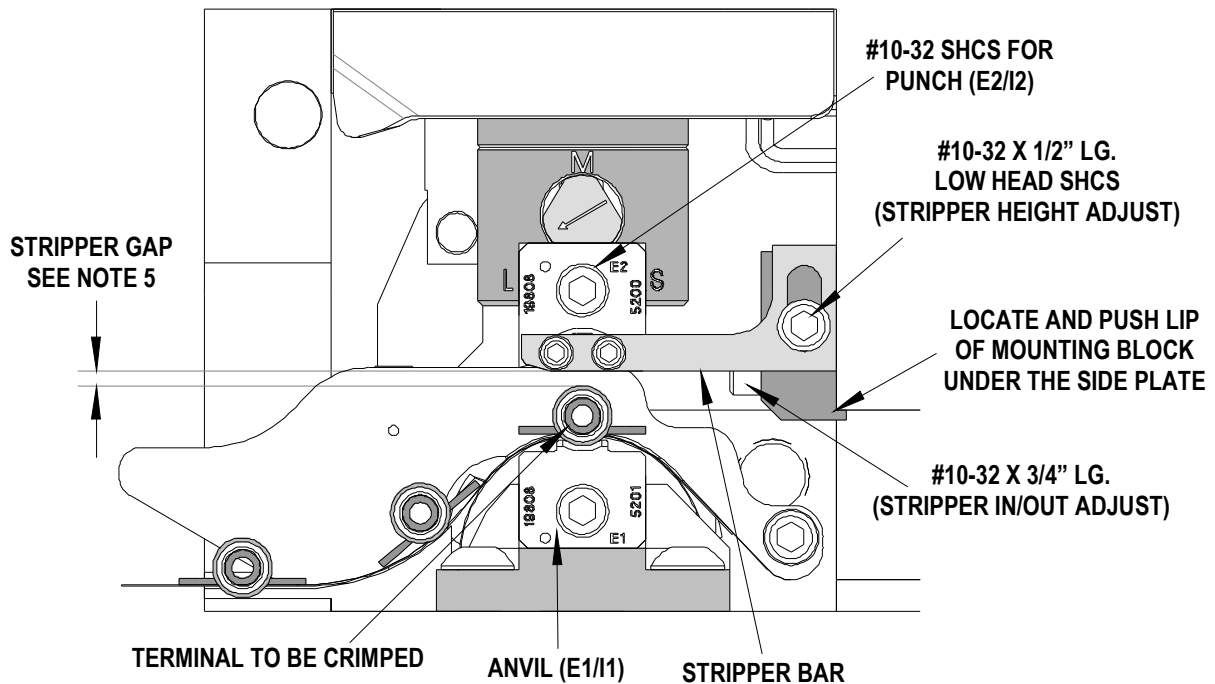

Figure 3-6
- Position the stripper assembly on the inside wall of the right side plate. Be certain the lip of the support block locates under the edge of the side plate and install the #10-32 x 3/4" SHCS into the far #10-32 tapped hole. Slide the block all the way forward (toward you) and tighten the #10 SHCS. See Figure 3-6.
- To properly position the support block depth, loosen the #10-32 x 3/4" SHCS and slide the entire assembly in until the stripper pad clears to #10-32 SHCS that mounts the conductor (E2) or insulation (I2) punch and tighten the #10-32 SHCS. See Figure 3-6.
- Adjust the stripper gap by positioning the stripper bar height. Loosen the #10-32 x 1/2" Low Head SHCS on the end of the support block and slide the stripper bar down so it is positioned just above the terminal that is to be crimped, and tighten the #10 Low Head SHCS. See Figure 3-6. To verify the stripper gap, push the index button twice to advance the terminal. Repeat this several times. If the terminal does not position properly between the punch and anvil, increase the stripper gap as required until the terminal positions properly.